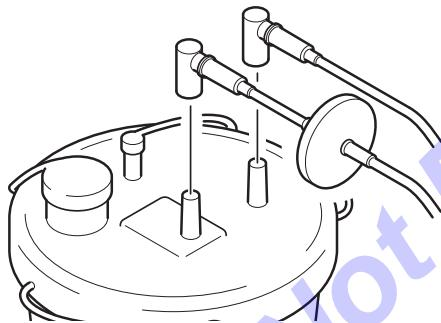

Figure 119 – Suction Canister Removal
2. Disconnect the suction tube connectors from the disposable suction canister (Figure 119).